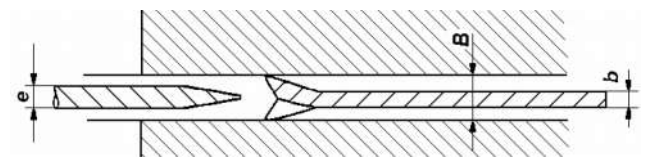

Fig.18
1. riving knives shall be manufactured from steel with an ultimate tensile strength of 580 N mm⁻² or of a comparable material, have flat sides (within 0,1 mm per 100 mm) and shall have a thickness less than the width of cut (kerf) and at least 0,2mm greater than the saw blade plate. As **Fig.18**